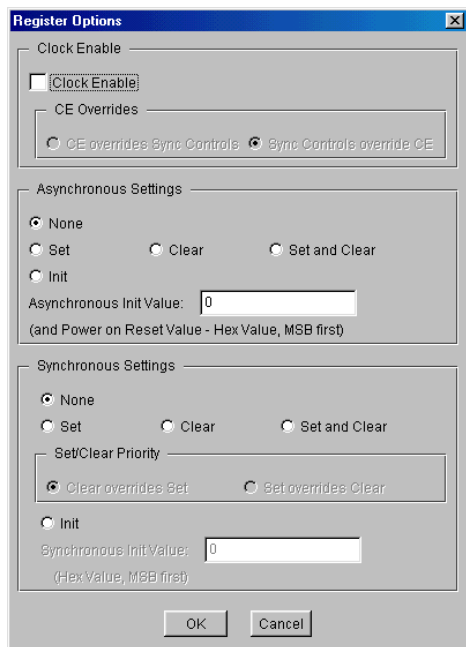

Figure 2: Adder/Subtractor Register Options Parameterization Screen
- **Register Options:** This button is only enabled when a registered output has been requested via the **Output Options**. Clicking on this button brings up the Register Options parameterization screen (see Figure 2).
The Register Options parameterization screen for this module is shown in Figure 2. The parameters are as follows: